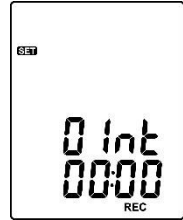

Fig.12
(1) Press  or  the button to set minute or second. (see Fig.12)
(2) Press  /  the button to increase / decrease value.